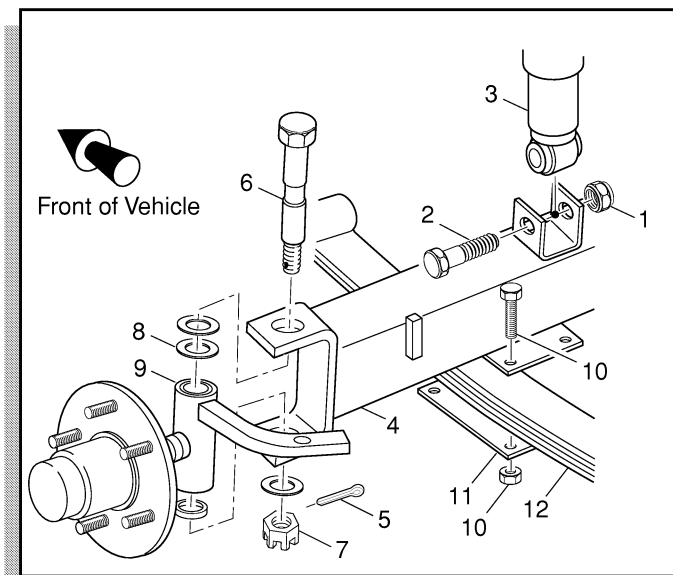

Fig. 2 Front Axle Replacement
Remove the nuts (1) and bolts (2) securing the bottom of the shock absorbers (3) to the front axle (4) (Ref Fig. 2 on page E-1).